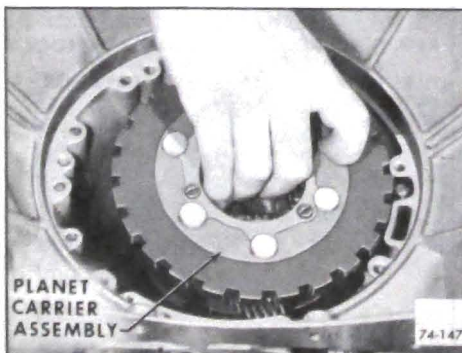

Figure 74-147
1. Remove planet carrier assembly from case, *using extreme caution not to damage case bushing*. See Figure 74-147.